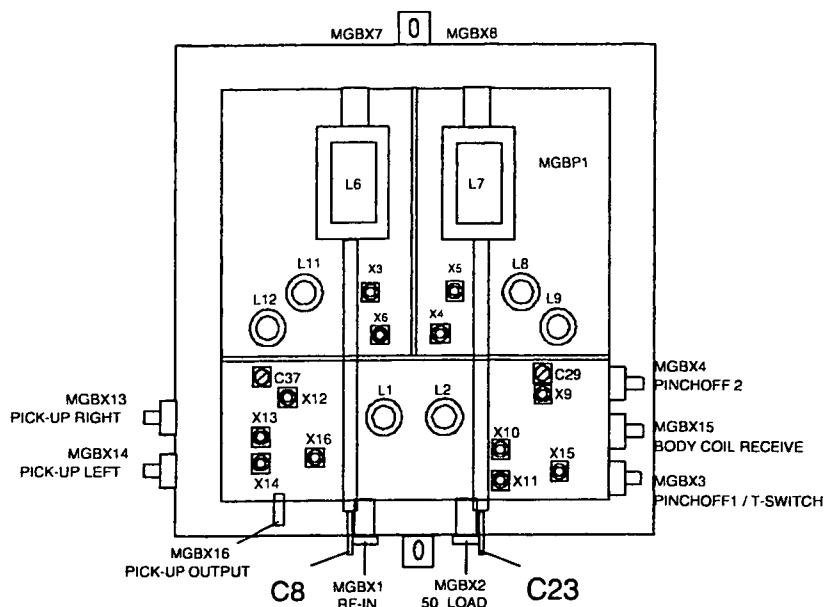

Figure 3 Hybrid Box
23. Check the offset frequency and the Q-factor and compare them with the specification. The frequency offset can be changed with trimmer C37. Trimmer C37 can be reached via an opening in the top plate of the hybrid box. See also Figure 3.